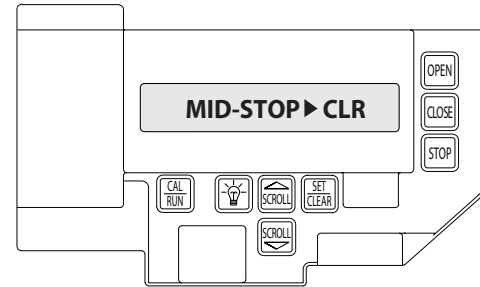

Figure 16
- 3) Press SCROLL  key until display reads "MID-STOP>CLR" **Figure 16.**